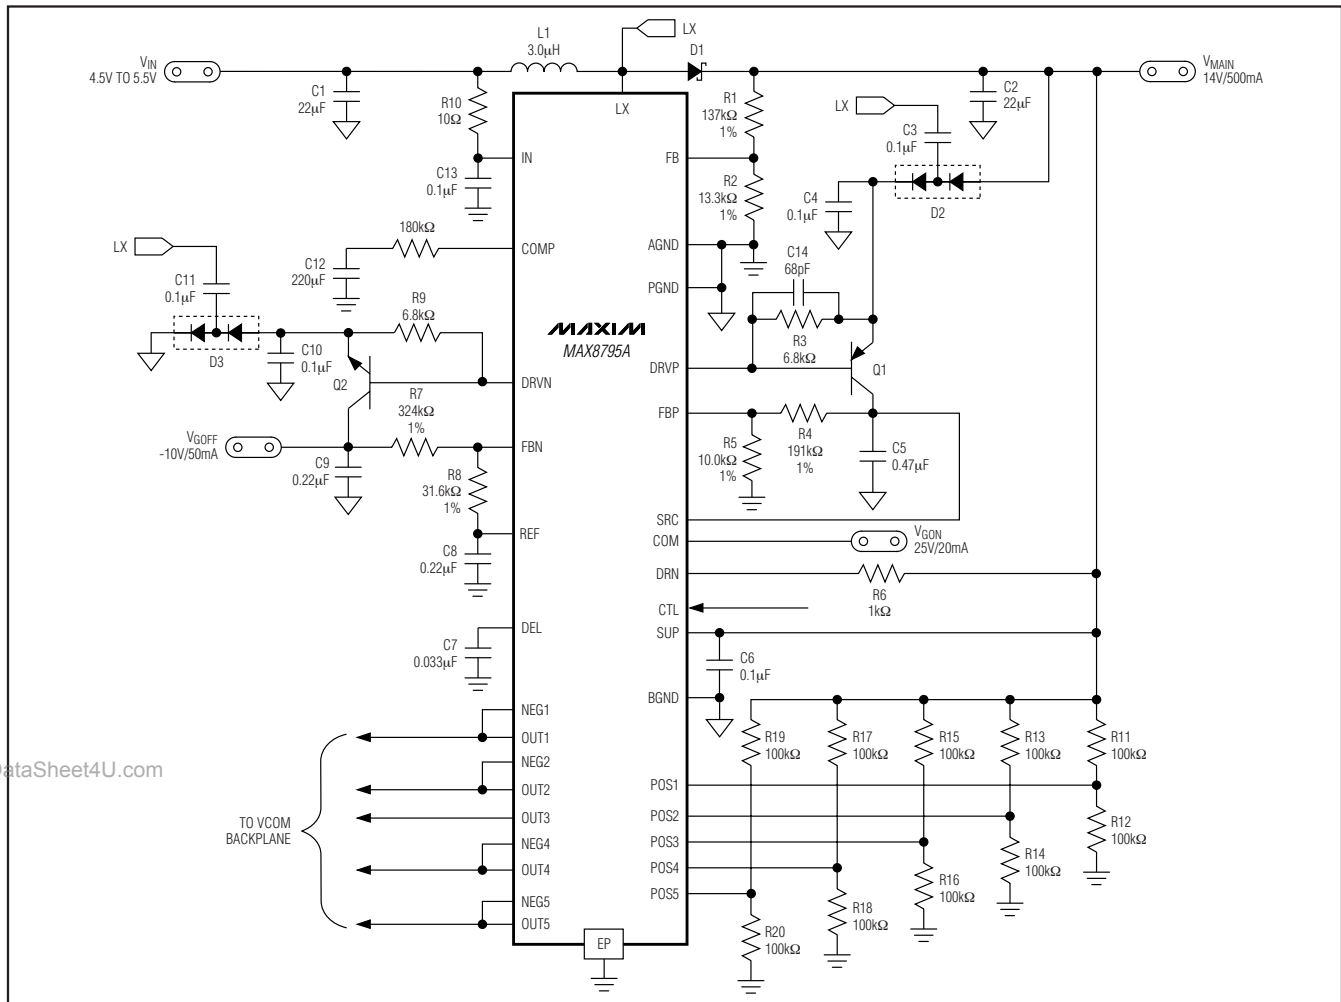

Figure 1. Typical Operating Circuit
(Circuit of Figure 1, $V_{IN} = 5V$, $V_{MAIN} = 14V$, $V_{GON} = 25V$, $V_{GOFF} = -10V$, $T_A = +25^\circ C$, unless otherwise noted.)
The MAX8795A typical operating circuit (Figure 1) is a complete power-supply system for TFT LCDs. The circuit generates a +14V source-driver supply and +25V and
-10V gate-driver supplies. The input voltage range for the IC is from +2.5V to +5.5V. The listed load currents in Figure 1 are available from a +4.5V to +5.5V supply. Table 1 lists some recommended components, and Table 2 lists the contact information of component suppliers.
The gate-on linear-regulator controller (REG P) is an analog gain block with an open-drain n-channel output. It drives an external pnp pass transistor with a 6.8k Ω base-to-emitter resistor (Figure 1). Its guaranteed base-drive sink current is at least 1mA. The regulator including Q1 in Figure 1 uses a 0.47 μ F ceramic output capacitor and is designed to deliver 20mA at 25V. Other output voltages and currents are possible with the proper pass transistor and output capacitor. See the *Pass-Transistor Selection and Stability Requirements* sections.
The gate-off linear-regulator controller (REG N) is an analog gain block with an open-drain p-channel output. It drives an external npn pass transistor with a 6.8k Ω base-to-emitter resistor (Figure 1). Its guaranteed base-drive source current is at least 1mA. The regulator including Q2 in Figure 1 uses a 0.47 μ F ceramic output capacitor and is designed to deliver 50mA at -10V. Other output voltages and currents are possible with the proper pass transistor and output capacitor (see the *Pass-Transistor Selection* and *Stability Requirements* sections).
REG N is typically used to provide the TFT-LCD gate drivers' gate-off voltage. A negative voltage can be produced using a charge-pump circuit as shown in Figure 1. REG N is enabled after the voltage on REF exceeds 1.0V. Each time it is enabled, the control goes through a soft-start routine that ramps down its internal reference DAC from VREF to 250mV in 128 steps.